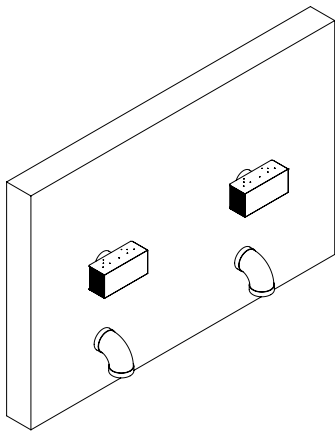
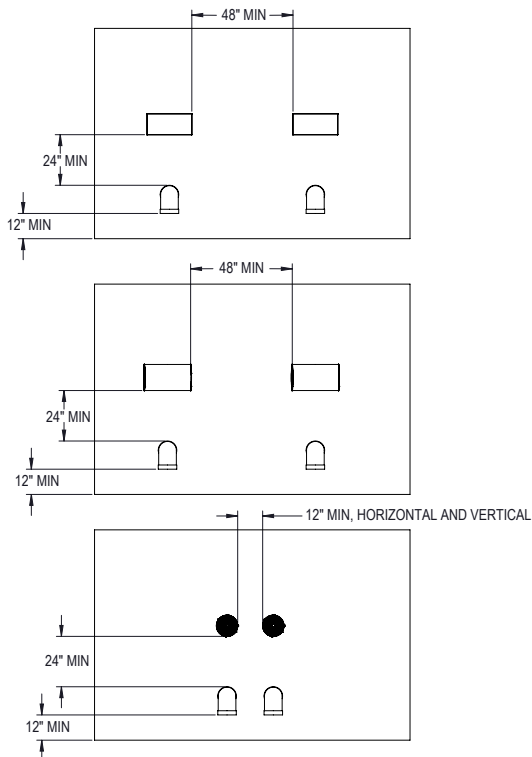
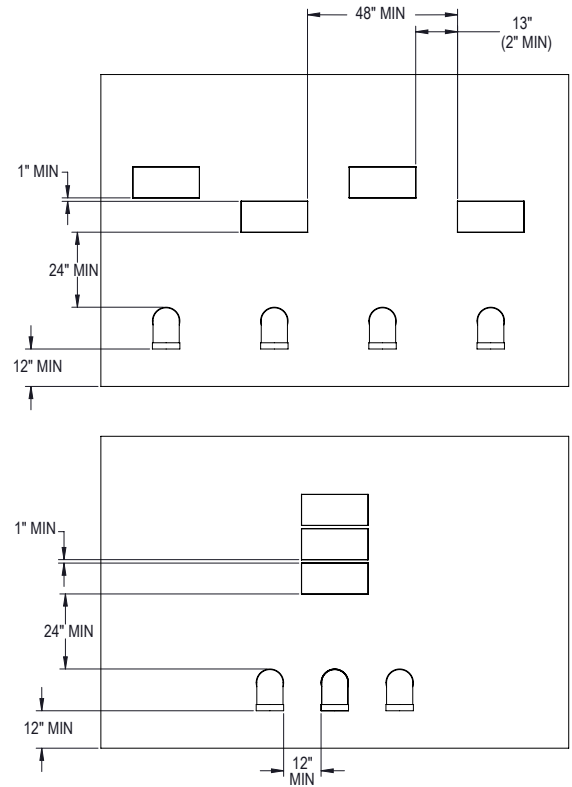

Figure 54. D-15 Sidewall Vent Termination
Figure 59. Horizontal and Vertical Venting Spacing
Figure 60. Horizontal and Vertical Venting Spacing
13. For clearance requirements for multiple-unit sidewall terminations, see **Figure 54 through Figure 60**.
9. Multiple direct-vent installations require specific clearances between the ends of vent caps located on the same horizontal plane. See **Figure 59 & Figure 60**.